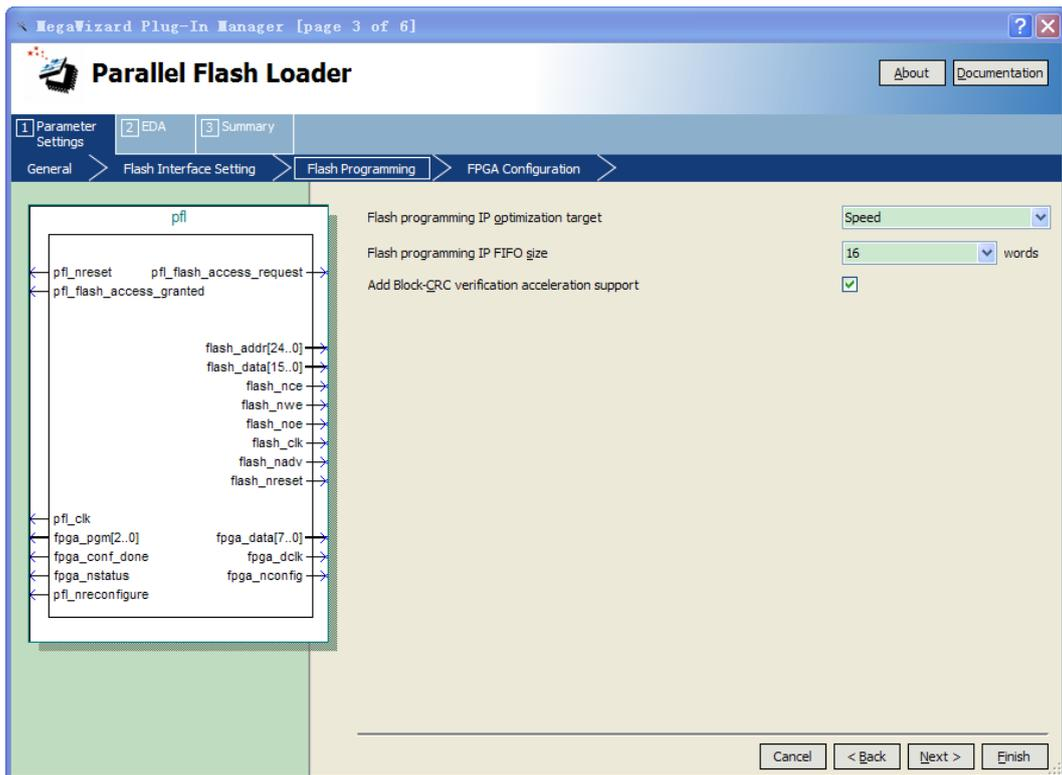

Figure 3-11 Setting the PFL Megafunction Parameters(Step 3)
- Click Next. **Flash Programming** page appears and specify value as shown in Figure 3-11.